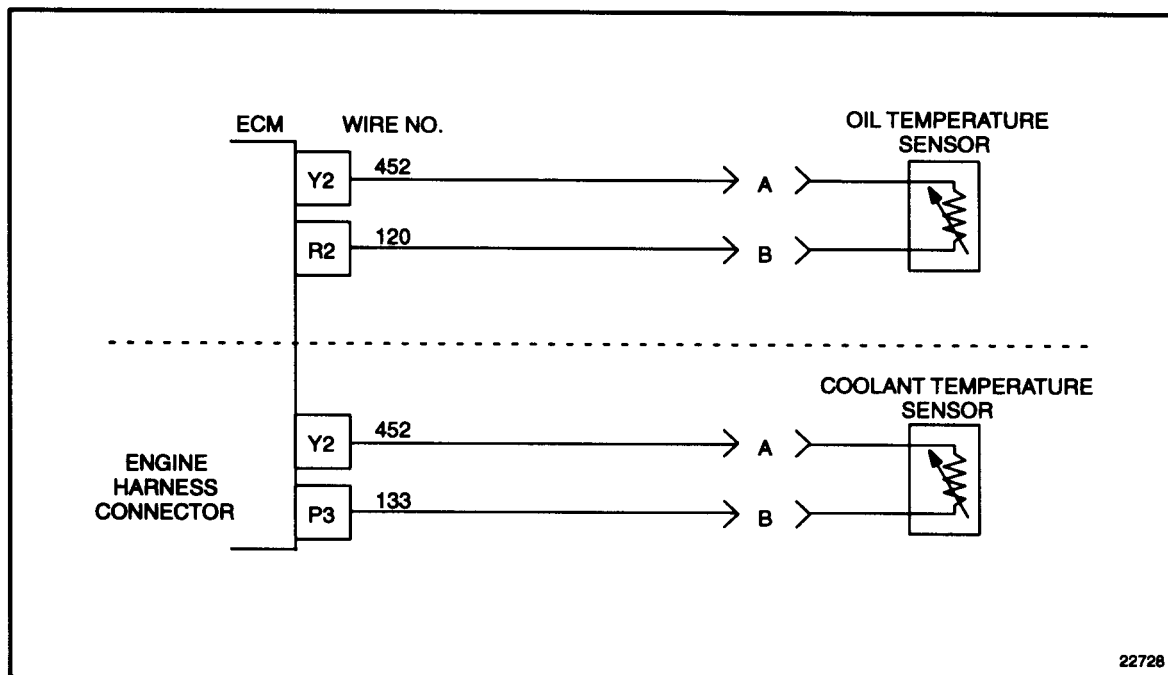

Figure 15-4 Temperature Sensor Circuits
1. Check terminals at the OTS connector (both sensor and harness side) for damage: bent, corroded and unseated pins or sockets. See Figure 15-4.